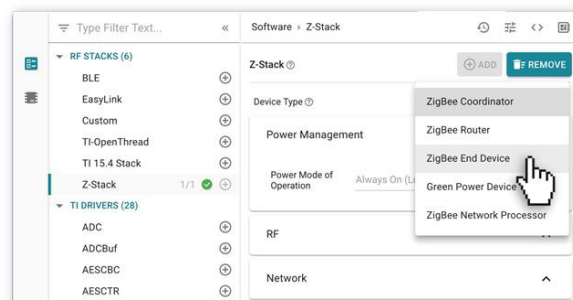

Figure 3. Use SysConfig to graphically configure pins, peripherals, stacks and other system components.
- SysConfig, a unified software configuration tool, is a comprehensive collection of graphical utilities for configuring pins, peripherals, radios, stacks and other system components. As users interact with SysConfig, as shown in **Figure 3**, hover-overs, tool tips and visual cues guide developers toward a valid configuration. The tool helps manage, expose and solve conflicts visually to free up more time for creating differentiated applications.